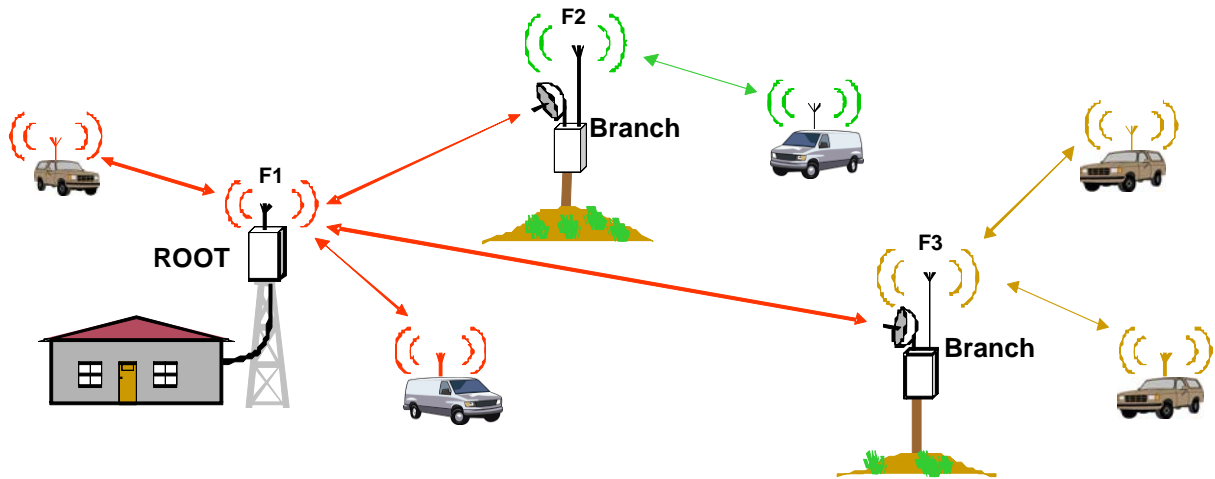

Figure 2-6 Roaming Vehicles Attaching To Any Of Three Access Points
4. Using the Tree topology you can use the fixed nodes in the tree (root and branches) to provide the backbone network. Those same radios can also be the access points to the mobile leaf nodes. This approach depicted in Figure 2-6.
Figure 2-6 shows an example of a mixed network with multiple topologies. When the whole network is synchronized each radio runs its TDD in one of two timings, A or B, as shown in the figure. All radios at a single site run on the same cycle.